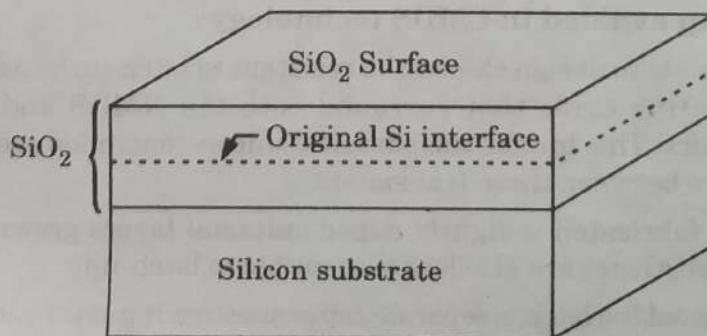

Fig. 2.12.1.
6. Fig. 2.12.1 shows the growth of SiO_2 . The framework of a model to describe silicon oxidation has been created.